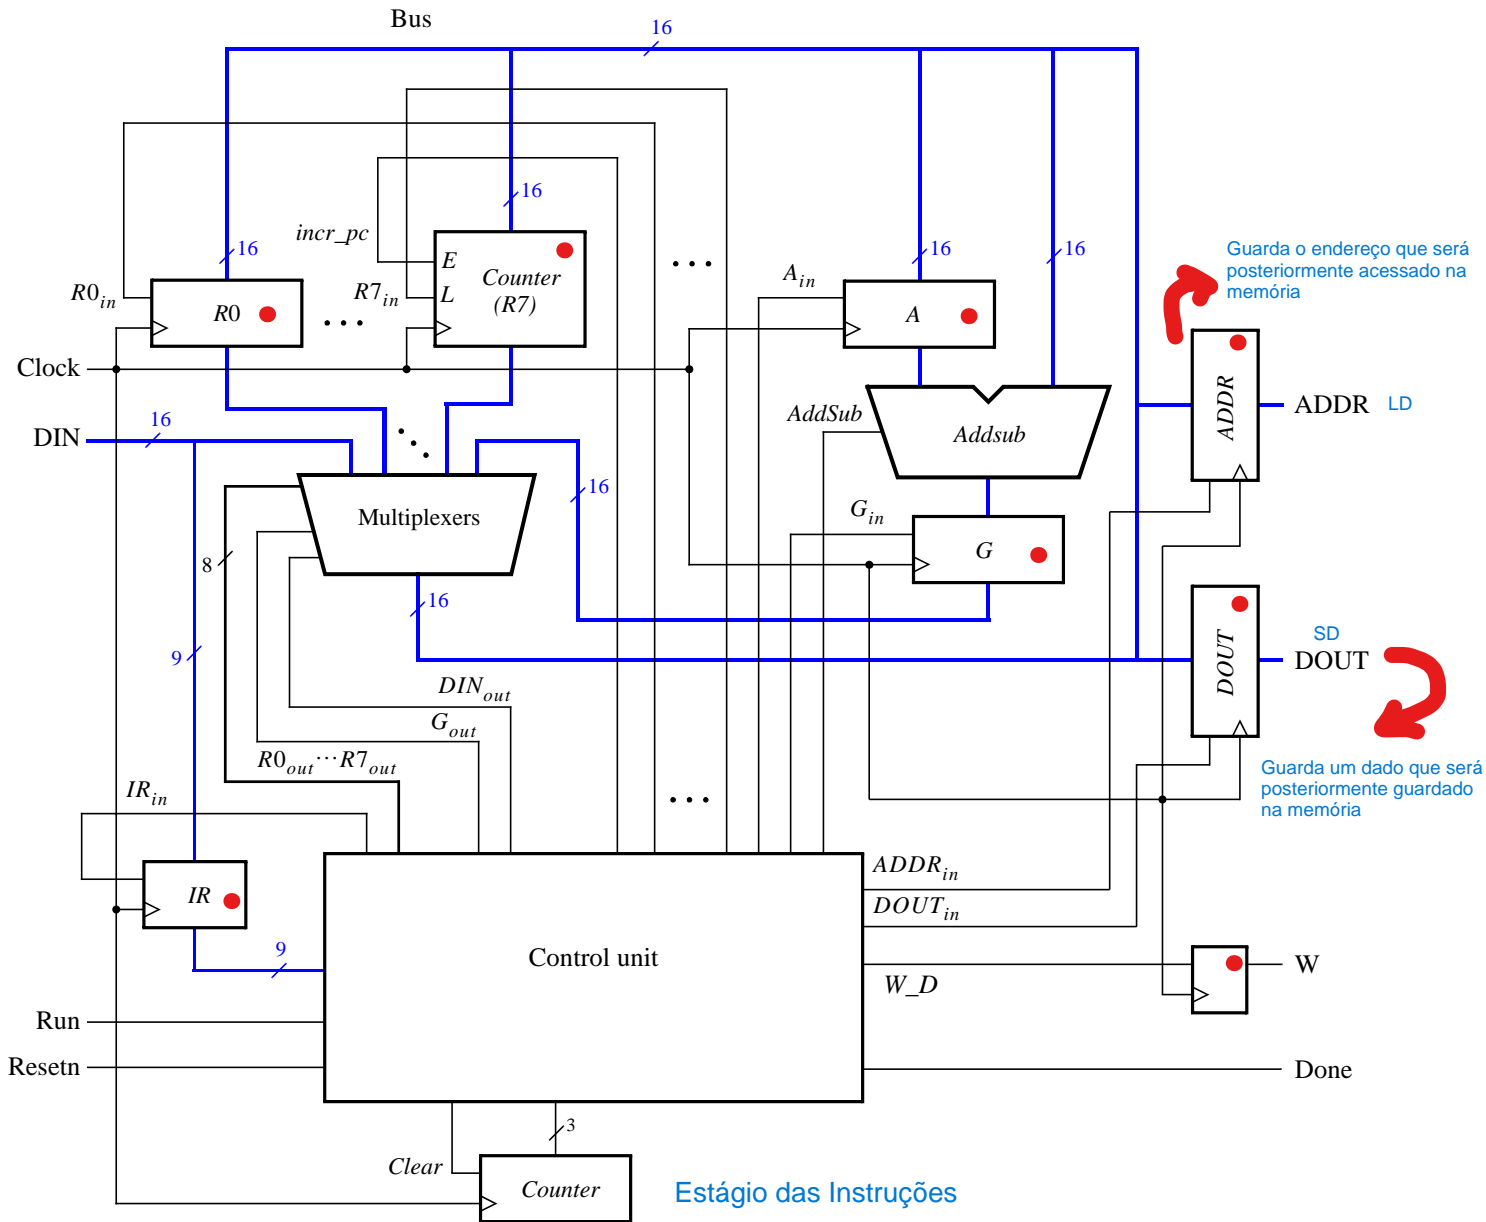

Figure 7. An enhanced version of the processor.
A schematic of the enhanced processor is given in Figure 7. In this figure, registers *R₀* to *R₆* are the same as in Figure 1 of Laboratory Exercise 9, but register *R₇* has been changed to a counter. This counter is used to provide the addresses in the memory from which the processor's instructions are read; in the preceding lab exercise, a counter external to the processor was used for this purpose. We will refer to *R₇* as the processor's *program counter (PC)*, because this terminology is common for real processors available in the industry. When the processor is reset, *PC* is set to address 0. At the start of each instruction (in time step 0) the contents of *PC* are used as an address to read an instruction from the memory. The instruction is stored in *IR* and the *PC* is automatically incremented to point to the next instruction (in the case of **movi** the *PC* provides the address of the immediate data and is then incremented again).
Figure 7 shows two registers in the processor that are used for data transfers. The *ADDR* register is used to send addresses to an external device, such as a memory module, and the *DOUT* register is used by the processor to provide data that can be stored outside the processor. One use of the *ADDR* register is for reading, or *fetching*, instructions from memory; when the processor wants to fetch an instruction, the contents of *PC* (*R7*) are transferred across the bus and loaded into *ADDR*. This address is provided to memory. In addition to fetching instructions, the processor can read data at any address by using the *ADDR* register. Both data and instructions are read into the processor on the *DIN* input port. The processor can write data for storage at an external address by placing this address into the *ADDR* register, placing the data to be stored into its *DOUT* register, and asserting the output of the *W* (write) flip-flop to 1. O sinal *W* é usado para indicar que uma escrita na memória ocorrerá